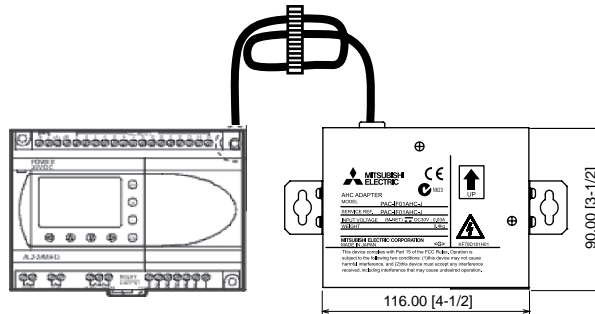
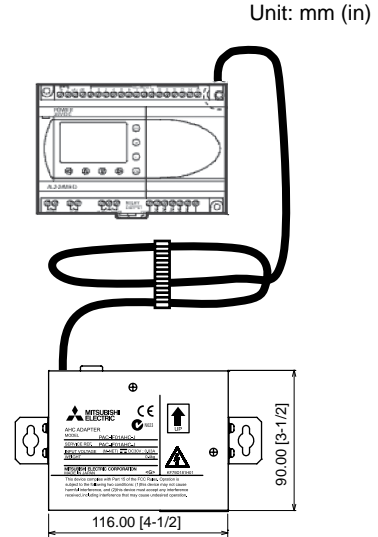

Fig. 7-1
Fig. 7-2
* Secure the cable that connects ALPHA2 and AHC ADAPTER in place with the supplied cable tie regardless of whether L-fittings or DIN rails are used. (Fig. 7-1 and Fig. 7-2)